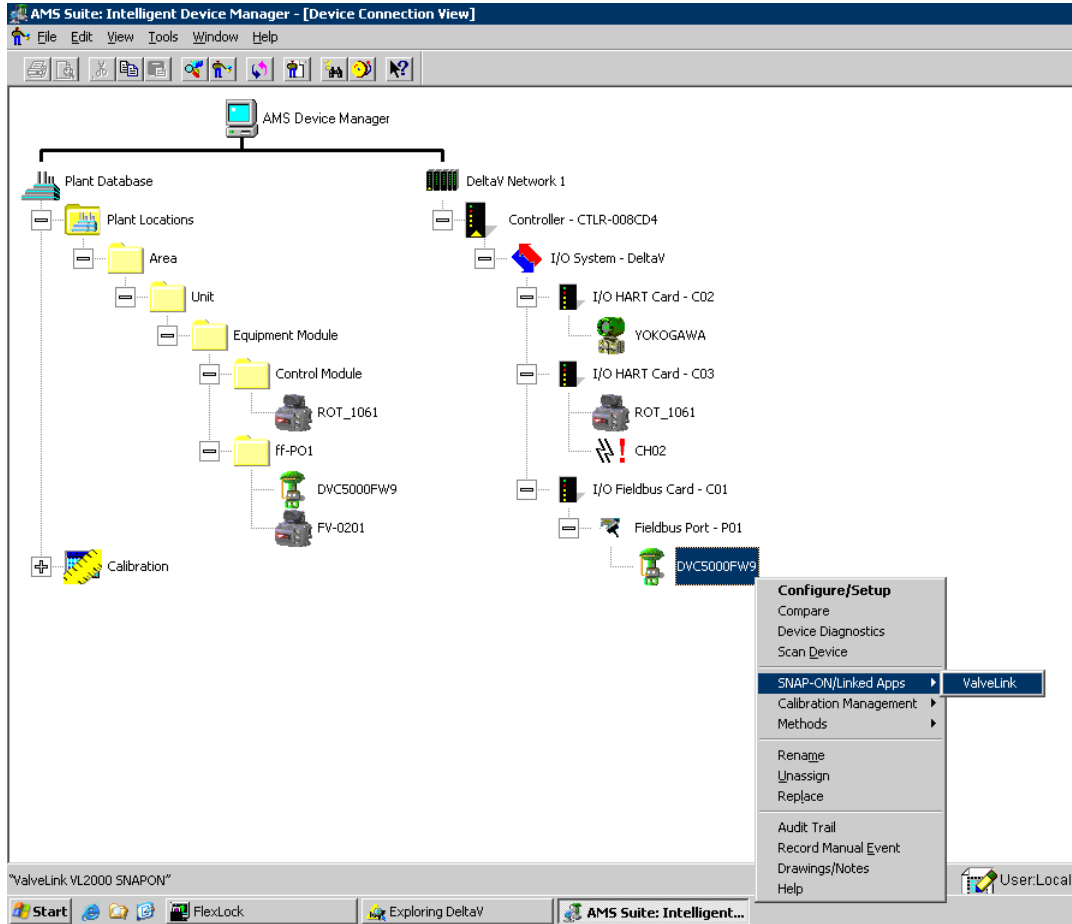

Figure 4-4. Starting AMS ValveLink SNAP-ON (Fieldbus Device)
**Step 6:** In the Device View Connection window, right click the instrument icon and select SNAP-ON/Linked Apps > ValveLink from the context menu as shown in figure 4-4.